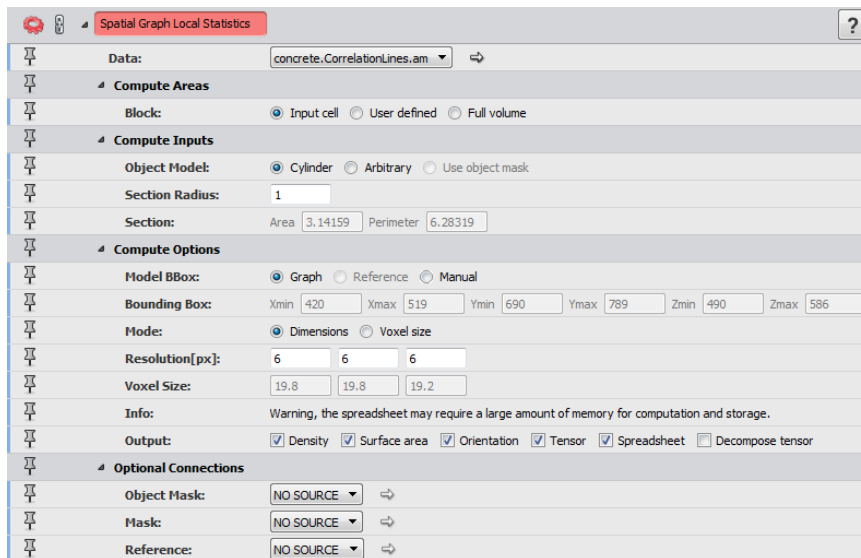

Figure 12.33: Parameters of the *Spatial Graph Local Statistics* Module
- Set the parameters as shown in Figure 12.33: